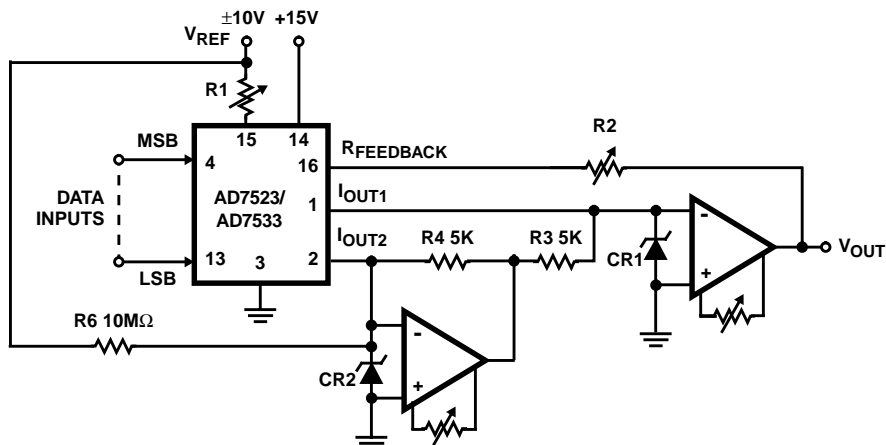

FIGURE 3. BIPOLAR OPERATION (4-QUADRANT MULTIPLICATION)
The circuit configuration for operating the AD7523 in the bipolar mode is given in Figure 3. Using offset binary digital input codes and positive and negative reference voltage values, Four-Quadrant multiplication can be realized. The "Digital Input Code/Analog Output Value" table for bipolar mode is given in Table 3.)
A "Logic 1" input at any digital input forces the corresponding ladder switch to steer the bit current to I_{OUT1} bus. A "Logic 0" input forces the bit current to I_{OUT2} bus. For any code the I_{OUT1} and I_{OUT2} bus currents are complements of one another. The current amplifier at I_{OUT2} changes the polarity of I_{OUT2} current and the transconductance amplifier at I_{OUT} output sums the two currents. This configuration doubles the output range. The difference current resulting at zero offset binary code, (MSB = "Logic 1", all other bits = "Logic 0"), is corrected by using an external resistor, ($10M\Omega$), from V_{REF} to I_{OUT2} (Figure 3).
The circuit configuration for operating the AD7533 in the bipolar mode is given in Figure 3. Using offset binary digital input codes and positive and negative reference voltage values, 4-Quadrant multiplication can be realized. The "Digital Input Code/Analog Output Value" table for bipolar mode is given in Table 4.
3. Nominal LSB magnitude for the circuit of Figure 3 is given by: